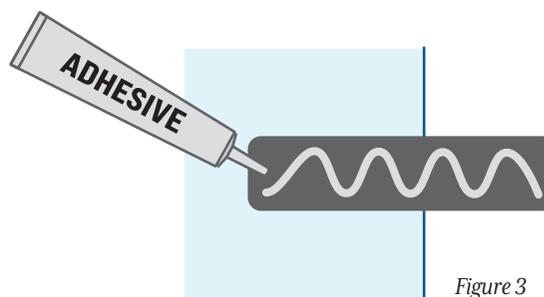

Figure 3
5. Once all brackets are in place, apply adhesive or silicone to the top of the bracket, (Figure 3).